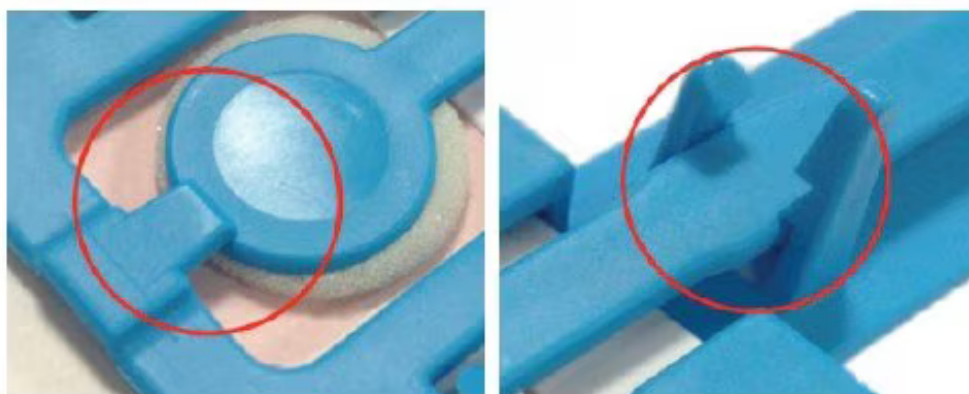

Figure 6
- Ensure the device is held in the sample transfer position for the full 10 seconds (Figure 6).